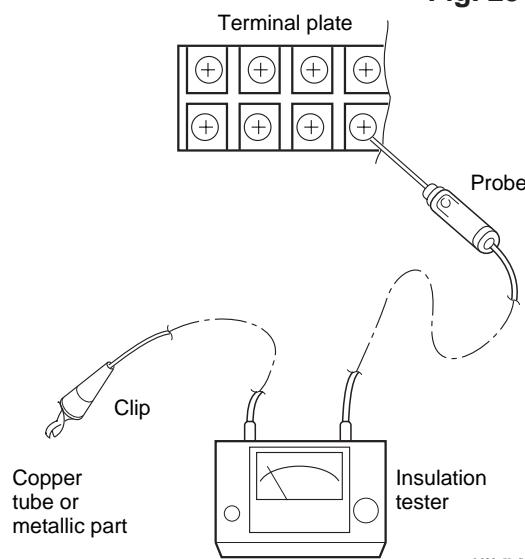

Fig. 26
Clamp an aluminum plate fin or copper tube with the lead clip of the insulation resistance tester and measure the resistance by placing a probe on high voltage terminal on the terminal plate (Fig. 26)
③ Outdoor Unit (SPW-CR253GHL5)
Clamp a metallic part of the unit with the lead clip of the insulation resistance tester and measure the resistance by placing a probe on ① and then ② on the 8 or 6P terminal plate. (Fig. 26)
③ Outdoor Unit (SPW-CR253GHL8, SPW-CR363GHL8, SPW-CR483GHL8)
Clamp a metallic part of the unit with the lead clip of the insulation resistance tester and measure the resistance by placing a probe on ⑤ and then ⑥, and then ⑦ on the 8P terminal plate. (Fig. 26)